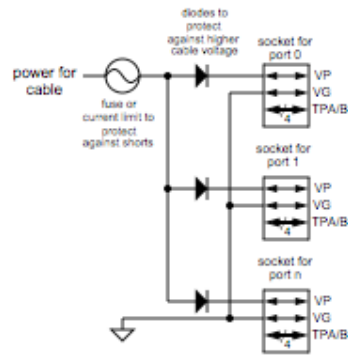

Figure 9-25—Node power interface for POWER\_CLASS one, two, or three
- Bus power needs to match the Power Class included in the Self-ID packet. See figures 9-25 and 9-26 from the IEEE 1394-2008 specification.